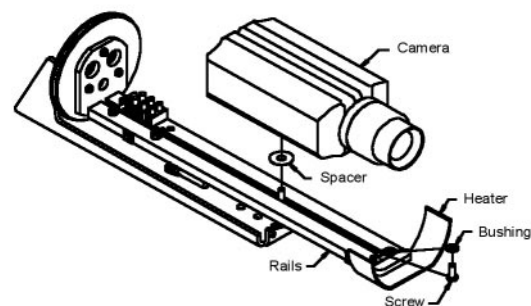

FIGURE 4 Mounting a Fixed Lens Camera
**Fixed Lens Cameras:** Position the camera/lens so that the lens is positioned over the heater but not past it. Secure the camera to the rail assembly with the 1/4-20 x 3/8in. BHC screw, a nylon bushing, and a 0.4mm (0.016in.) plastic spacer. Place the nylon bushing over the screw and slide both between the rails through the front cut-out section. Slide the spacer over the screw so it is positioned in-between the rails and the camera. See FIGURE 4.